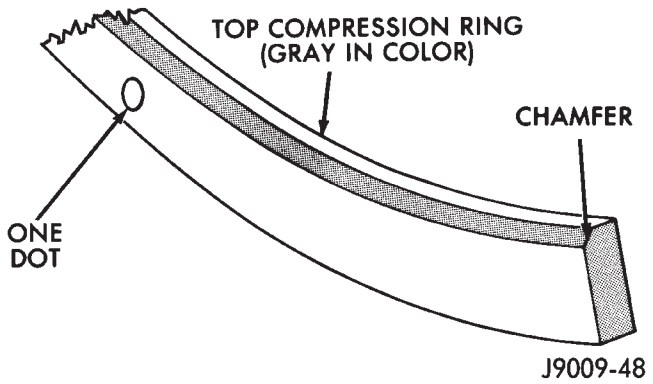
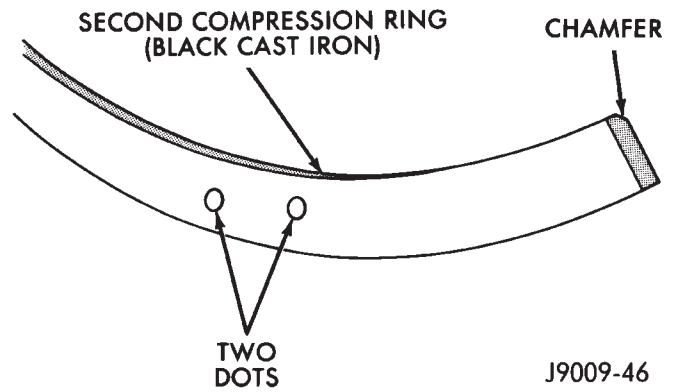

Fig. 13 Top Compression Ring Identification
Fig. 14 Second Compression Ring Identification
(5) Install the oil control rings according to instructions in the package. It is not necessary to use a tool to install the upper and lower rails. Insert oil rail spacer first, then side rails.
(6) The two compression rings are different and cannot be interchanged. The top ring (Fig. 13) is a moly ring (the scraping edge is gray in color). The second ring (Fig. 14) is a black cast iron ring (the scraping edge is black in color when new). The compression rings may also be identified by 1 or 2 dots on the top surface of the ring (Figs. 13 and 14).
(7) The second compression ring (black cast iron) has a chamfer on the **BOTTOM** of the inside edge (Fig. 14). This ring may also have 2 dots located on the top surface.